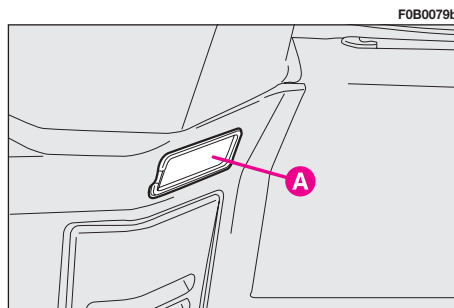

fig. 143
**Luggage compartment lights fig. 143**